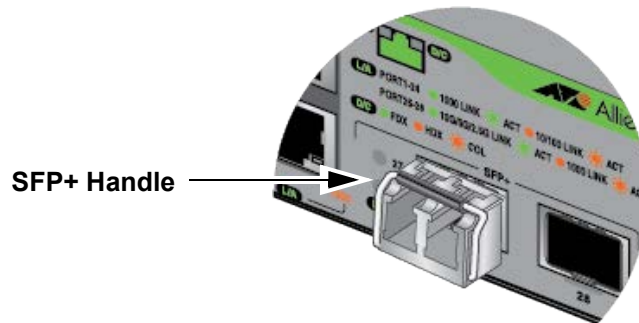

Figure 77. Positioning the SFP+ Handle in the Upright Position
6. Verify that the transceiver handle is in the upright position. Refer to Figure 77.